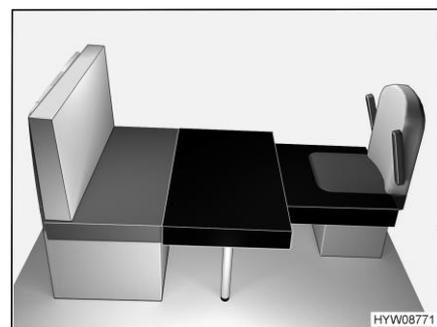

Fig. 72 After conversion
- Place big additional cushion on the table top (Fig. 72).
- Place small additional cushion on the driver's seat (Fig. 72).